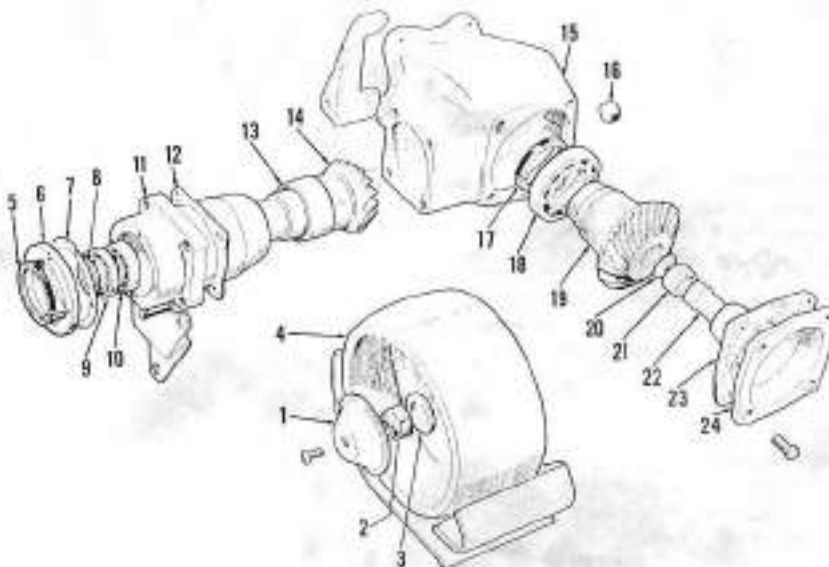

Fig. 150—Exploded view of belt pulley assembly available on 865 models. Refer to Fig. 151 for heavy duty unit available for all models.
A belt pulley attachment that mounts on PTO housing and is driven from PTO shaft is available for all models. Refer to Fig. 150 for exploded view of light duty unit available only for 885 model and to Fig. 151 for heavy duty unit available for all models including 885. Venting of the unit shown in Fig. 150 is accomplished by a hole drilled through the expansion plug (20) in input gear (19); thus, oil leakage will occur if unit is stored with mounting end down. Refer to following paragraphs for overhaul of belt pulley unit.
225. To renew pulley shaft oil seal (5-Fig. 150 or 151) only, remove cover (1), unscrew pulley nut (2) and remove pulley. Unbolt and remove retainer (6) taking care not to lose or damage any shims (8) and install new seal in retainer with lip inward. Lubricate seal with grease, place new gasket (7) on retainer, be sure all shims (8) are present inside housing, then install retainer and tighten cap screws securely. Reinstall pulley and tighten nut to a torque of 100 ft.-lbs., then reinstall cover (1).
For complete overhaul of unit, proceed as follows: Remove plugs (16) and drain lubricant. Remove belt pulley, then unbolt and remove output housing (11) and gear assembly from gearbox (15). Unbolt and remove rear cover (24). Be careful not to lose or damage shims (12 or 23). On light duty models (Fig. 150), drive input gear (19) rearward out of gearbox.
**NOTE:** Do not insert drift pin through the splined part of gear as driving against expansion plug (20) will damage both plug and needle bearing (21). Remainder of disassembly will be evident on both models.
To disassemble output (pulley) housing and gear, remove retainer (6-Fig. 150 or Fig. 151) with shims (8) from outer end of housing and press gear (14) out inner end. Remove the roller bearing (9) and ball bearing (10) from housing of early models or identical taper bearings (9 & 10) from late models. If worn or damaged, remove needle roller bearing (13) from inner end of housing.
Carefully clean and inspect all parts. If needle bearing (21-Fig. 150) in output gear of light duty models is worn or damaged and gear set is usable, remove bearing from gear. Also, check needle bearing journal on pin (22) and remove pin from rear cover (24) if
If either gear (14 & 19-Fig. 150 or 14 & 19G-Fig. 151) is worn or damaged beyond further use, both gears should be renewed as a matched set.
Lubricate needle bearing (13-Fig. 150 or Fig. 151) with grease. Install bearings (9 & 10) in housing. Install new seal (5), then install retainer with new gasket (7) and same shims (8) as removed. Position the housing, bearing and seal assembly on hub of belt pulley, insert output gear (14) in housing and press gear in until seated against ball bearing. Remove the assembly from belt pulley and check shaft end play. On early models with ball bearing at (10), shaft should turn smoothly in bearings and have an end play of 0.004-0.006 inch. On later models, with taper roller bearings at (9 & 10), shaft should turn smoothly and have approximately 0.003 in. preload on bearings. If end play is not within these limits, remove retainer and add or remove shims (8) as necessary to obtain correct end play or bearing preload.
Install new oil seal (17) in gearbox with lip to inside. Press bearing (18) onto gear so that side of outer bearing race marked "THRUST" will be towards oil seal, then insert input gear into housing, carefully working gear through the seal. On light duty models, lubricate needle bearing (21-Fig. 150) with grease, then install cover (24) and pin (22). On heavy duty unit, install shaft (19S-Fig. 151), gear (19G), bearing (21) and cover (24).
On all models, install output shaft and housing assembly with same shims (12-Fig. 150 or Fig. 151) as removed on disassembly, then check gear backlash. If backlash is not within the limits of 0.005-0.007 inch, remove the output shaft and housing assembly and add or remove shims (12 & 23) as necessary to obtain correct backlash.
Fig. 151—Exploded view of heavy duty belt pulley available for all models. Later models use two identical taper roller bearings at (9 & 10). Bearings (18 & 21) are both ball type. Input gear is shown at (19G) and input shaft is shown at (19S). Refer to Fig. 150 for remainder of parts identification.